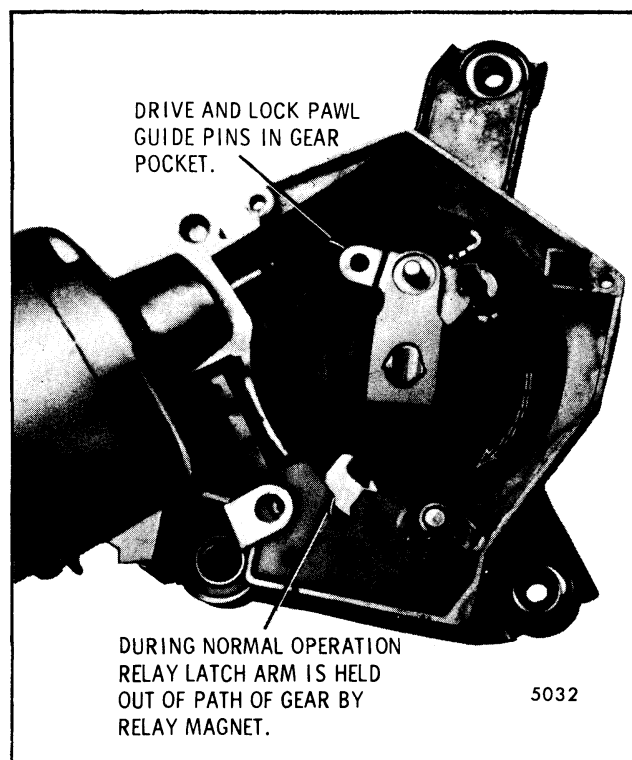

Fig. 2-55-Gear in Normal Run Position
- b. When the fin momentarily opens the holding switch contacts "A", the holding circuit for both the gear box relay coil and demand relay coil is interrupted to ground. The demand relay switch contacts then opens and the gear box relay latch arm is released and moves out into the path of the gear drive pawl (Fig. 2-55). At this stage of operation the gear box relay switch is still closed and the wiper motor continues to run.